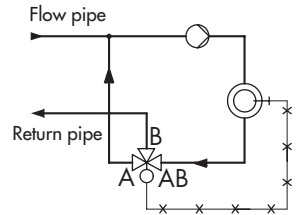

Fig. 3 · Installation schematics for the temperature regulator
- ▶ The flow direction at ports A, B, and AB must correspond with the regulator arrangement specific to the installation (see Fig. 3).